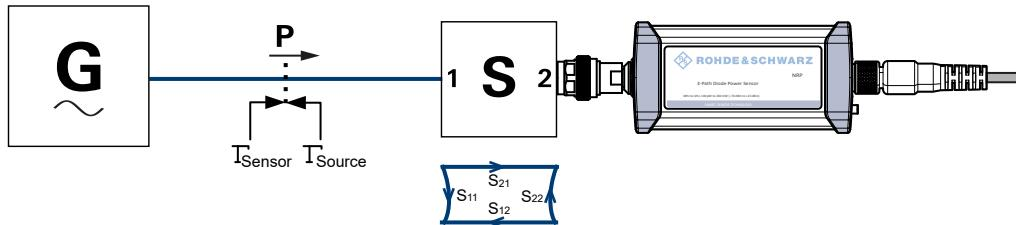

Figure 9-6: Correction of interactions between the power sensor, the signal source, and the S-parameter device
The interaction between the complex reflection coefficient Γ_{sensor} of the power sensor and the reflection of port 2 is expressed by S_{22} , see Figure 9-6. If the S-parameter correction is enabled, this interaction is always considered, regardless whether gamma correction is performed or not.
- S-parameter device if the S-parameter correction is enabled, S11 in Figure 9-6.